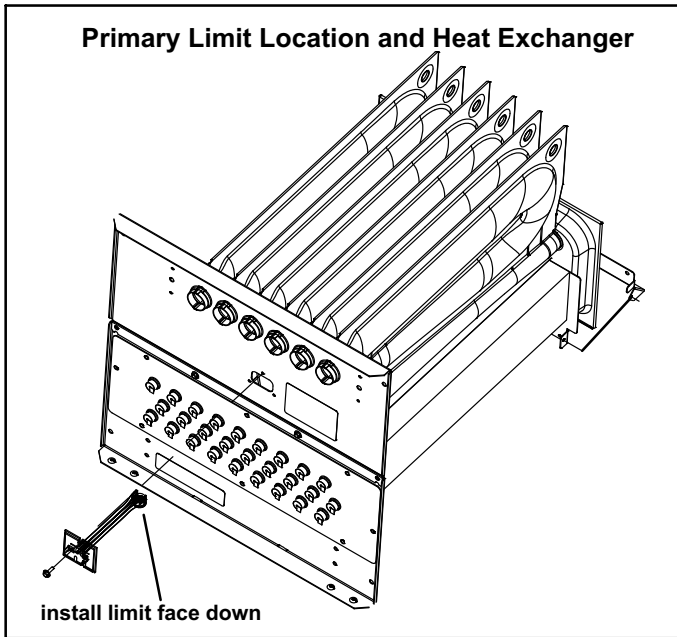

FIGURE 15
5. Duralock Plus™ Heat Exchanger (Figure 15)
Figure 15 shows the primary limit (S10) used on SLP98UHV units located in the heating vestibule panel. When excess heat is sensed in the heat exchanger, the limit will open. Once the limit opens, the furnace control energizes the supply air blower and de-energizes the gas valve. The limit automatically resets when unit temperature returns to normal. The switch is factory set and cannot be adjusted. In the event of restricted air flow, the integrated control will reduce firing rate and indoor blower airflow in 10% increments until a sustainable air flow is reached. If the furnace reaches 35% firing rate, and adequate air flow is not available, the furnace will shutdown and enter one hour watchguard. For limit replacement remove wires from limit terminals and rotate limit switch 90 degrees. Slowly remove from the vestibule panel.